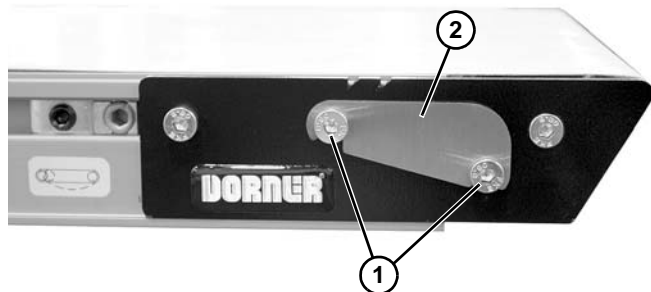

**Figure 28**
2. Install round end (Figure 28, item 1) of dust cover into recessed screw hole (Figure 28, item 2).
3. Insert flat end (Figure 28, item 3) of dust cover into access slot (Figure 28, item 4), making sure it rests against notch (Figure 28, item 5).